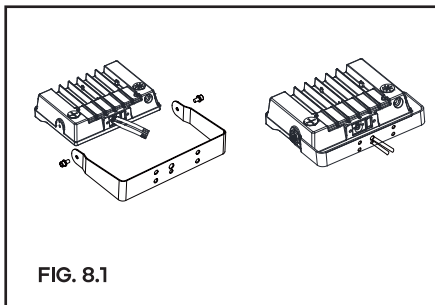

FIG. 8.1
STEP 1. Pass the core wire through the hole of the FM support, and then tighten hexagon socket screw. **FIG. 8.1**